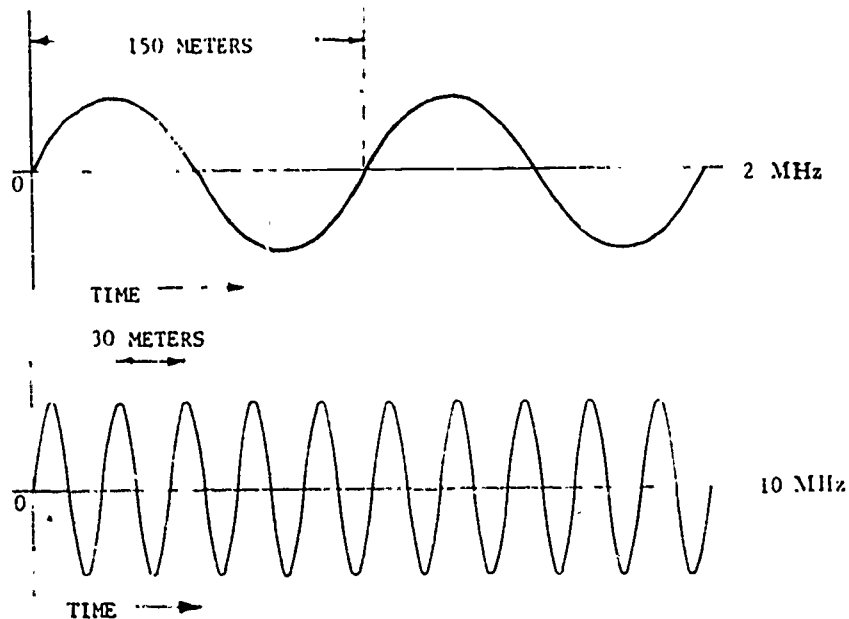

Figure 2-3. Comparison of two waves of different frequencies.
(3) The frequency of a radio wave is the number of complete cycles that occur in 1 second. Figure 2-3 compares the wavelength of radio waves of two different frequencies. Since the frequency of a radio wave is very great, it is expressed in kilohertz (kHz) or MHz. One kHz equals 1,000 Hz, and one MHz equals 1,000,000 Hz.
a. Continuous Wave (CW). The waveform of the CW or unmodulated wave resembles the RF current in the tank circuit of an oscillator. This signal is called the carrier and conveys no information within itself. The carrier is a sine wave of alternating current as illustrated in figure 2-3. At the higher frequencies, each cycle is so close to the other that the peaks may appear sharp or pointed, although they are actually rounded.